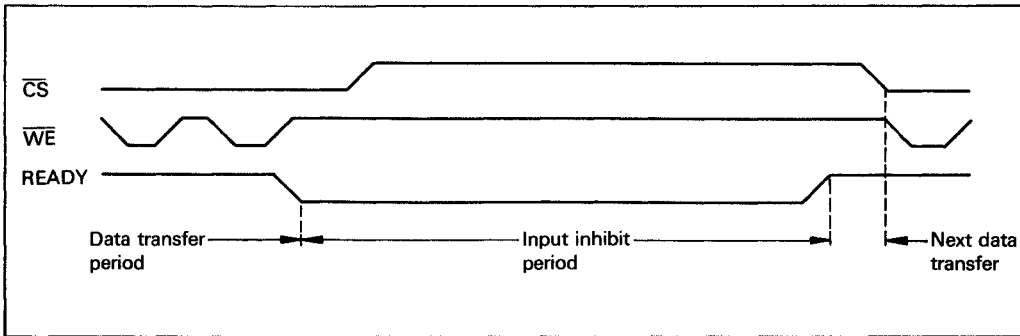

Figure 16. READY Output Timing (When It is Always Available)
- READY is always available (figure 16).